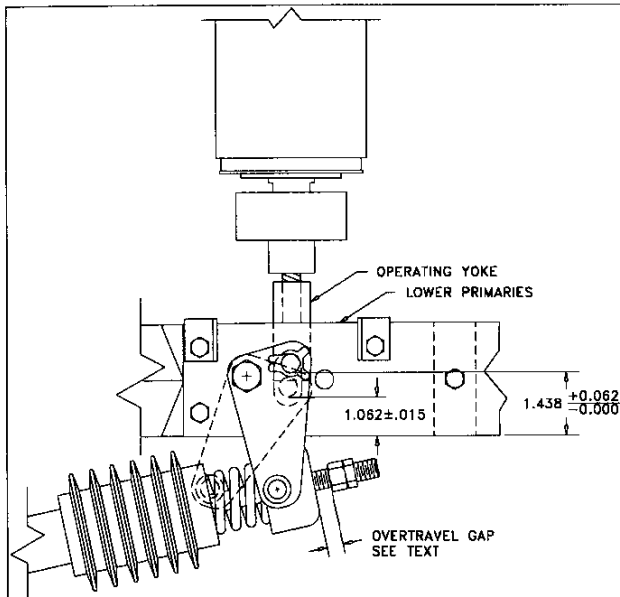

Figure 2. Operating Yoke Adjustments
At each inspection, the vacuum interrupters should be checked for contact erosion. The breaker must be closed for this check. Each new vacuum interrupter is set with a gap of 0.500 inch to 0.625 inch between the contact loading spring yoke and the nut on the pushrod. Because the factory setting of the overtravel gap varies slightly for each interrupter, a label is provided on the lower part of each interrupter. The original factory setting of the overtravel gap and the end-of-life measurement of this gap are recorded on the label. When the overtravel gap measurement reaches the end-of-life value given on this label the interrupter should be replaced. See Figure 2.
See Figure 2.
- d. As explained in the description of the mechanism operation, when the breaker is closed a gap will exist between the contact loading spring yoke and the nut on the pushrod stud, Figure 2. With a new vacuum interrupter, this gap will be between 1/2 inch and 5/8 inch. As the contacts erode, the gap will reduce to about 3/16 inch.
(3) Primary Resistance Values
- Unscrew and remove the operating yoke at the lower end of the vacuum interrupter (Figure 2).